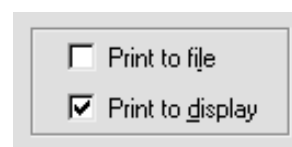

Figure 10. Checkboxes.
- **Checkboxes** (Fig. 10) are another common feature, allowing one or more of the options to be selected at the same time.